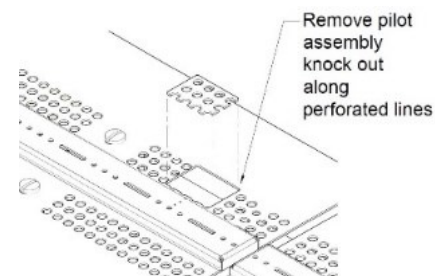

FIGURE 47
- 10) Before replacing the removed burner top from **step 4**, locate the perforated rectangular section in the pan. Gently remove this section along the perforations using a screwdriver or pliers. **(Figure 47)**